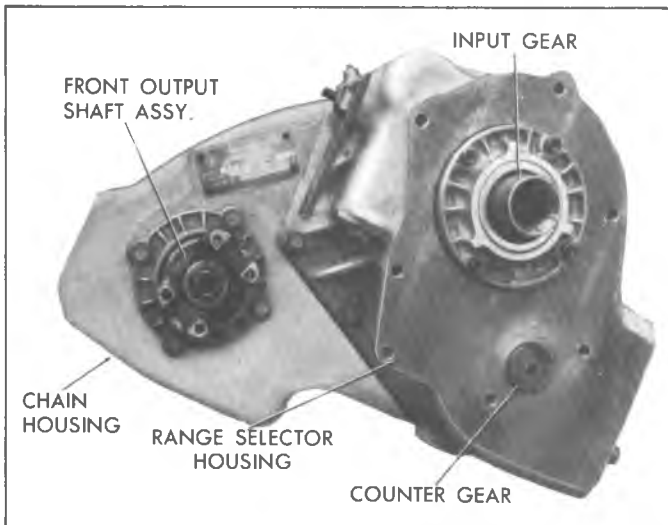

Fig. 2F—Front View of Transfer Case
1. Position transfer case on work bench or suitable work table (Fig. 2F and 3F).